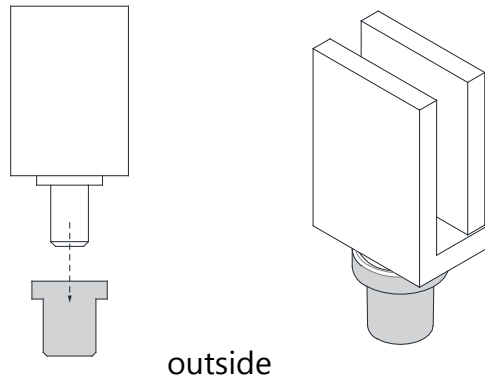

**Fig 12**
**12.** Extend the **Expandable Rails** evenly so that the **Magnetic Strike profile (#12)** goes into the opposite **Wall Profile (#01)** on the door-side of the opening. **(Fig 12)**